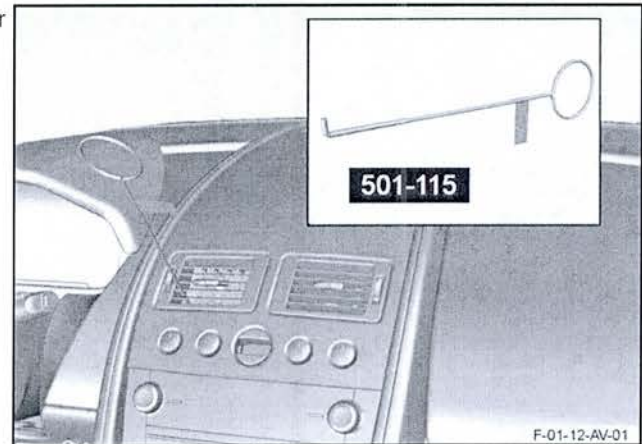

Figure 1
2. Use the special tool to release the veneer bezel for the Instrument Panel (IP) (refer to Figure 1).